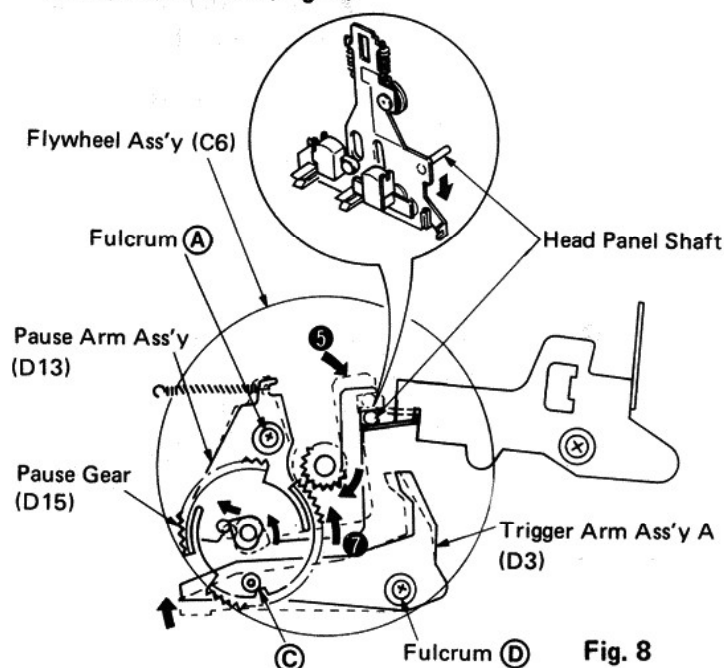
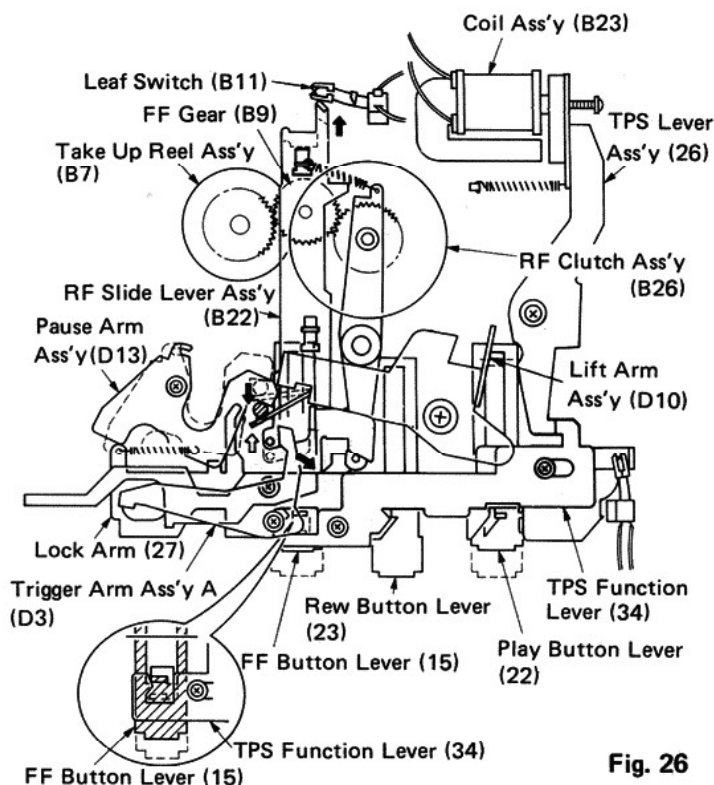
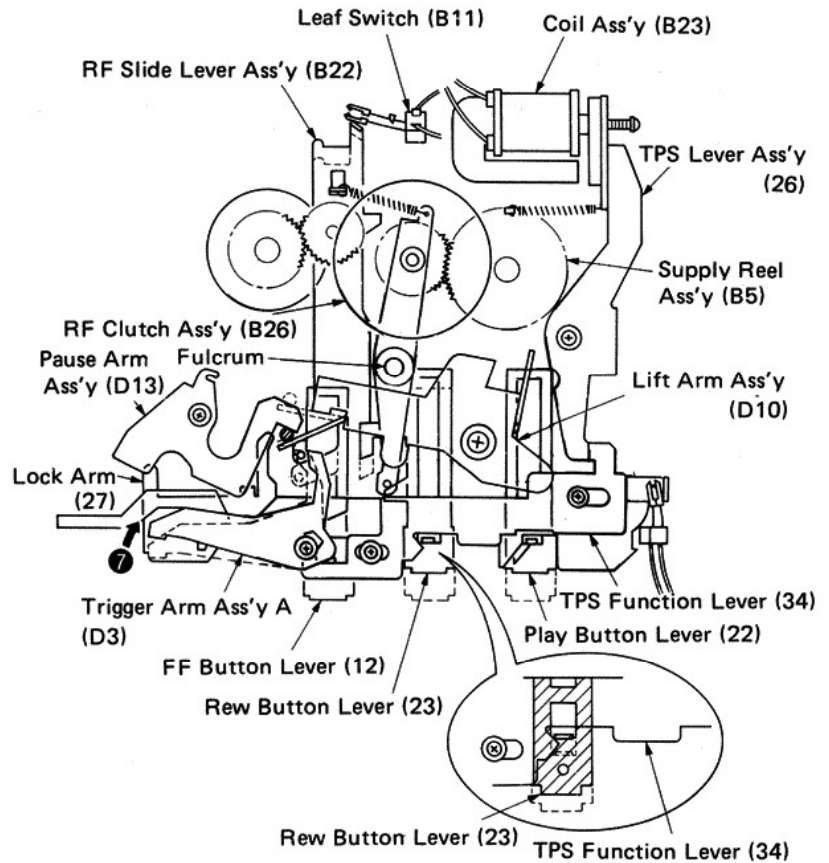

Fig. 8
Fig. 26
Fig. 28
- 3 When the pause gear (D15) rotates in the ⑦ direction, the pause arm assembly (D13) rotates around the fulcrum ① in the ⑤ direction. Hence the head panel shaft (namely the head panel) makes a backward motion. (Fig. 8)
• Status Change into FF TPS Mode: (Fig. 26)
- 2 When the leaf switch (B11) turns on, the tape output is muted. Since current flows in the coil assembly (B23), the TPS lever assembly (26) and the TPS function lever (34) are held. Consequently the FF button lever (15) maintains the pressed condition.
- 3 On the other hand the forward movement of the RF slide lever assembly (B22) makes the trigger arm assembly (D3) move clockwise. Since this motion is the same as the pause button lever (21) being pressed (as shown in Fig. 8), the pause arm assembly (D13) pushes the head panel shaft as a result and the entire head panel is made to move backward.
- 4 The gear of the RF clutch assembly (B26) meshes with the FF gear (B9) by the effect of the FF button lever (15). This gear coupling is further interlinked with the gear of the take-up reel assembly (B7). Thus the take-up reel rotates to assume an FF TPS condition. (Fig. 26)
• **Status Change into REW TPS Mode: (Fig. 28)**
- 2 When the leaf switch (B11) is turned on, the tape output is muted. Since a current flows in the coil assembly (B23), the TPS lever assembly (26) and the TPS function lever (34) are held. Consequently the rewind button lever (23) maintains the pressed condition.
- 3 On the other hand the forward movement of the RF slide lever assembly (B22) makes the trigger arm assembly A (D3) move in direction ⑦. Since this motion is the same as the pause button lever (21) being pressed (as shown in Fig. 8), the pause arm assembly (D13) pushes the head panel shaft as a result and the whole head panel is made to move backward.
- 4 The gear of the RF clutch assembly (B26) meshes with that of the rewind button lever (23) and the mechanism assumes the REW TPS mode.(Fig. 28)